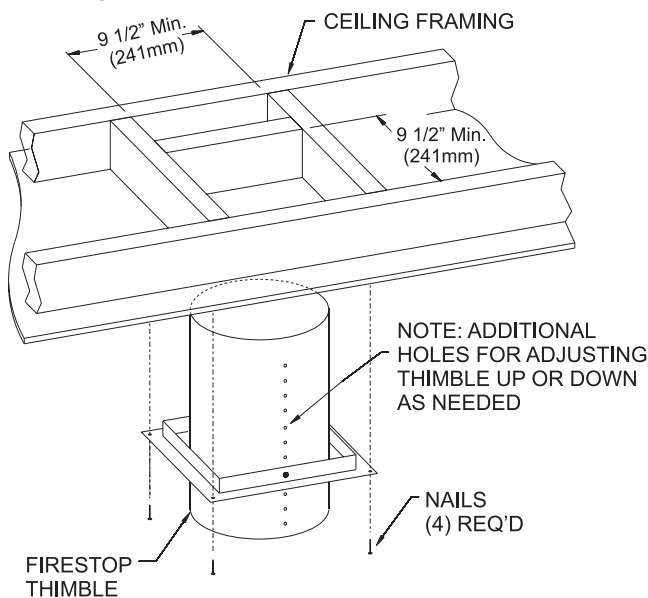

Figure 57
4. Once the fireplace location has been determined, mark the ceiling where the flex vent will pass through. Cut an opening for installation of the firestop thimble assembly. The opening must measure a minimum of 9-1/2 inch x 9-1/2 inch square. **See Figure 57.**